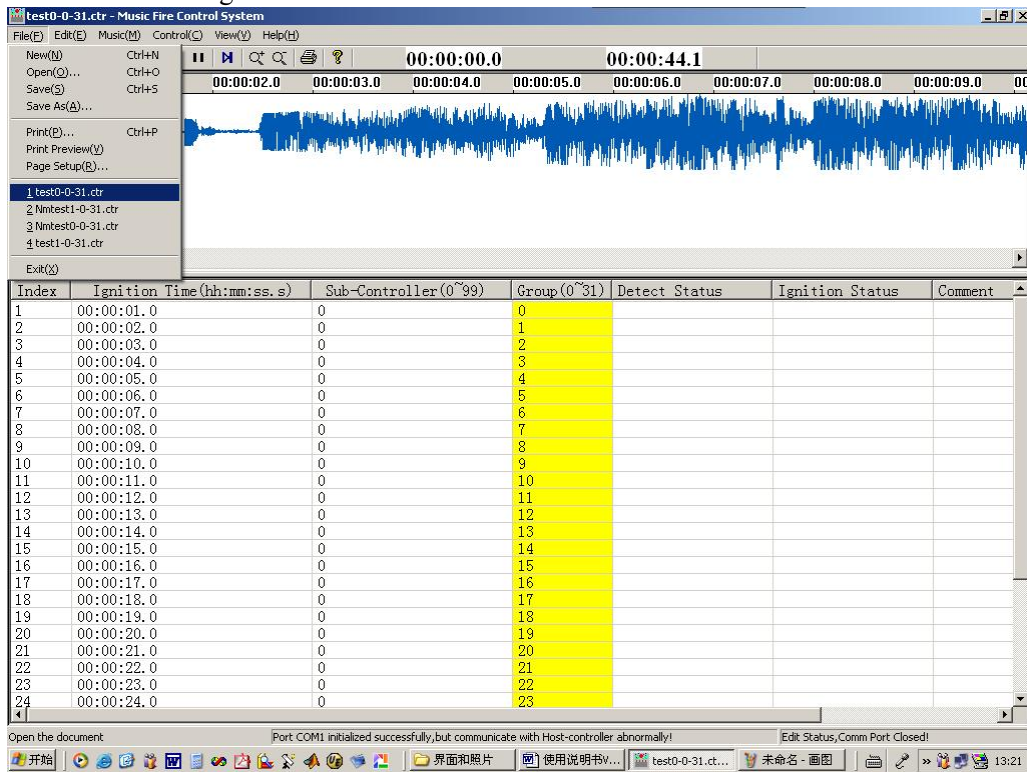
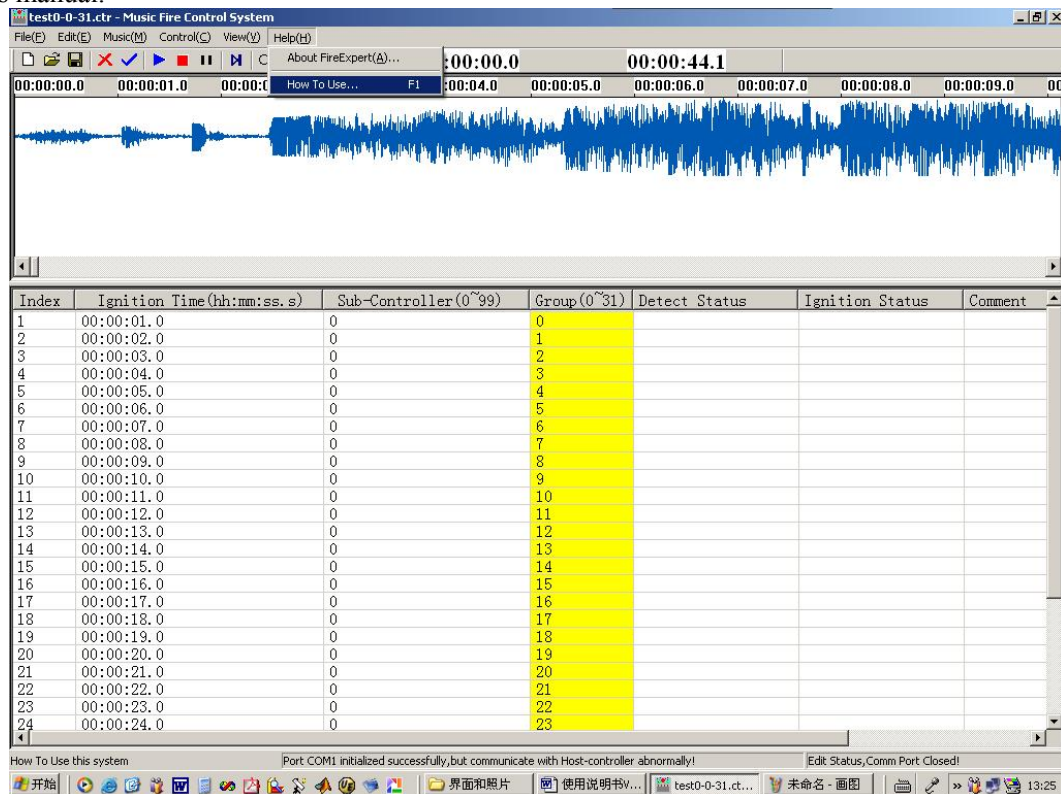

fig 14 "File" Menu
fig 19 "Help" Menu
3、Menus. Show in fig 14 to fig 19.
(1) File: Show in fig 14.
(6) Help: show in fig 19. Click the menu items can display the version of the program and open the User's manual.